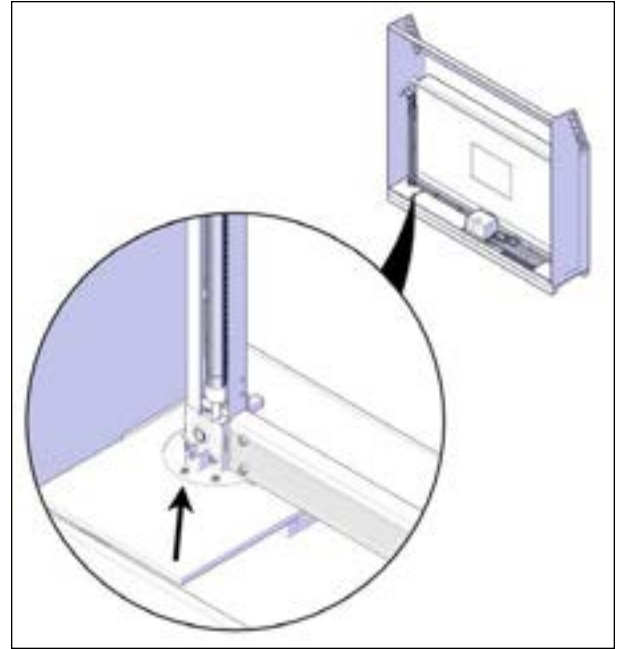

FIGURE 26: REMOVE BOTTOM SCREWS ON JACKS
7. Use the 3/8" (10 mm) socket wrench to unscrew the hexagonal 1/4" x 2" lag bolts on the bottom of both jacks. There are two lag bolts per jack Figure 26.